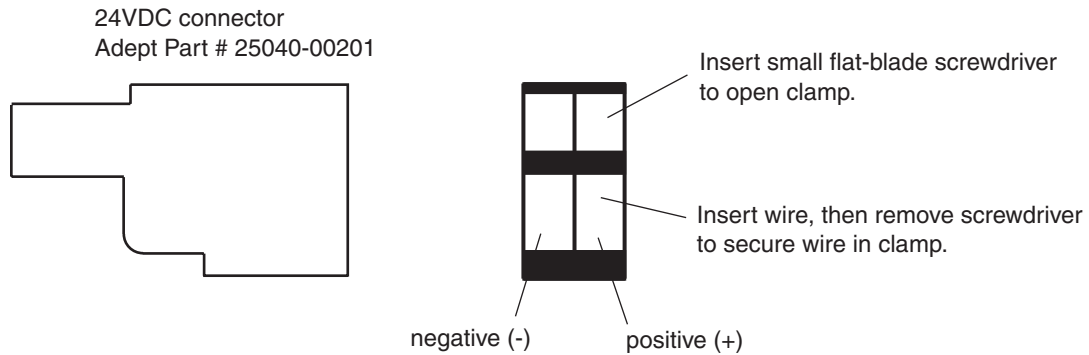

Figure 4-8. 24V Connectors
1. Locate two 24 VDC connectors that are shipped with the PLC Server. See Figure 4-8 on page 61.